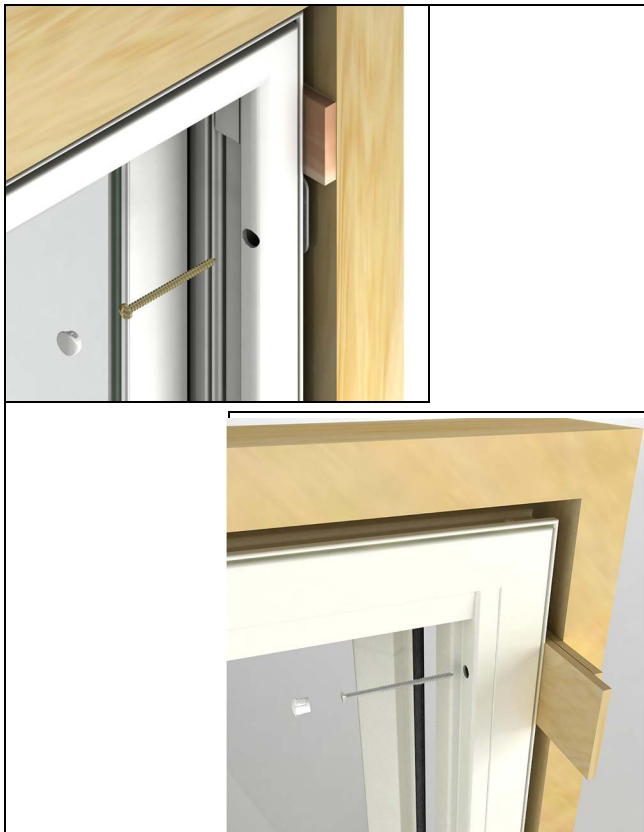

Figure 15
2. Square and plumb the unit in the opening (refer to installation instructions). Place shims above every installation hole. Apply the #8 x 3" screws to permanently secure the unit to the framing members. Cover with hole plug. See Figure 15.